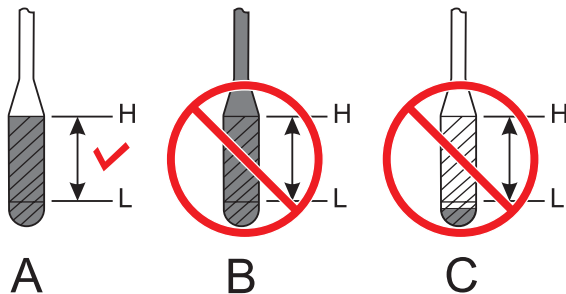

Figure 36. Engine Oil Dipstick Leve
3. Reinsert the dipstick, then remove the dipstick from its holder. Check the oil level shown on the dipstick (Figure 36).